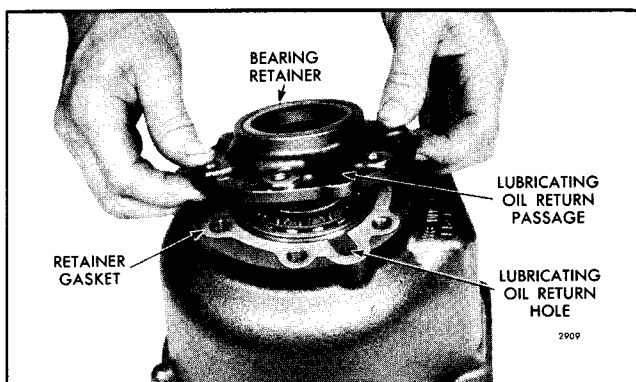

Fig. 97 - Installing Drive Shaft Bearing Retainer on Gear Housing
of the gasket over the oil hole and the bolt holes in the gasket and gear housing in alignment as shown in Fig. 97.
b. Place the bearing retainer straight over the bearing and gasket with the oil drain notch in the retainer directly over the oil hole in the gear housing, and the bolt holes in the retainer and gear housing in alignment as shown in Fig. 97.